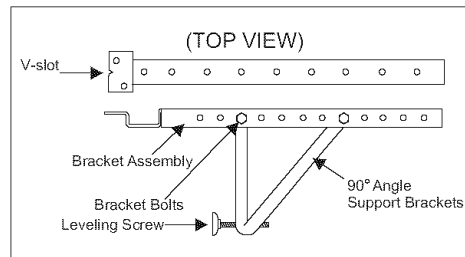
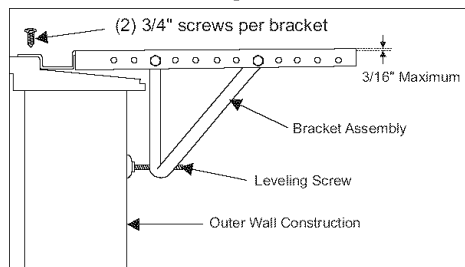
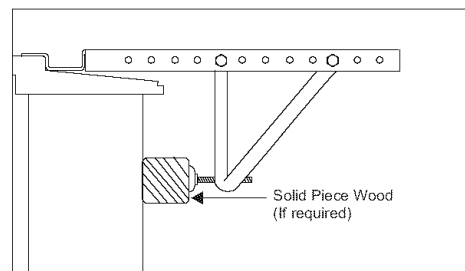

Fig. 5
Fig. 7
Fig. 8
A. Attach the **bracket assembly** to **90° angle support brackets** (*Fig. 5*) using (2) **1 1/2" bolts** Two bolts per bracket. Secure with the (2) **1/4" lock washers** and (2) **1/4" nuts**. **DO NOT** immediately tighten these bolts as it may be necessary to adjust the depth of the **bracket assembly**, depending on the depth of your window sill. See (*Fig. 7*). Install the two **leveling screws** into the 90° support brackets. Test the bracket assembly in the window before cabinet installation. If the leveling screws are distanced too far away from the wall to provide stability, it may be necessary for you to fill this area with a solid piece of wood. See (*Fig. 8*).
C. For proper condensation run-off it will be necessary to adjust the angle/pitch of the window brackets. This is accomplished by adjusting the distance of the leveling screw on the outer wall. The maximum angle/pitch should not exceed more than 3/16". See (*Fig. 7*).
Use a solid piece of wood to provide stability. This will be required when sills are extra deep. See (*Fig. 8*).
C. Check to make sure that the cabinet is slanted slightly downward on the outside. If necessary, re-adjust support bracket as shown in (Fig. 7).